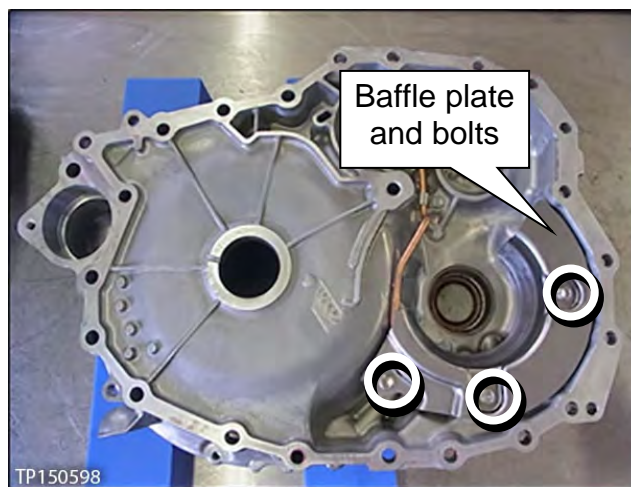

Figure 1H
- a. Remove the three bolts, and then remove the baffle plate from the converter housing (Figure 1H).